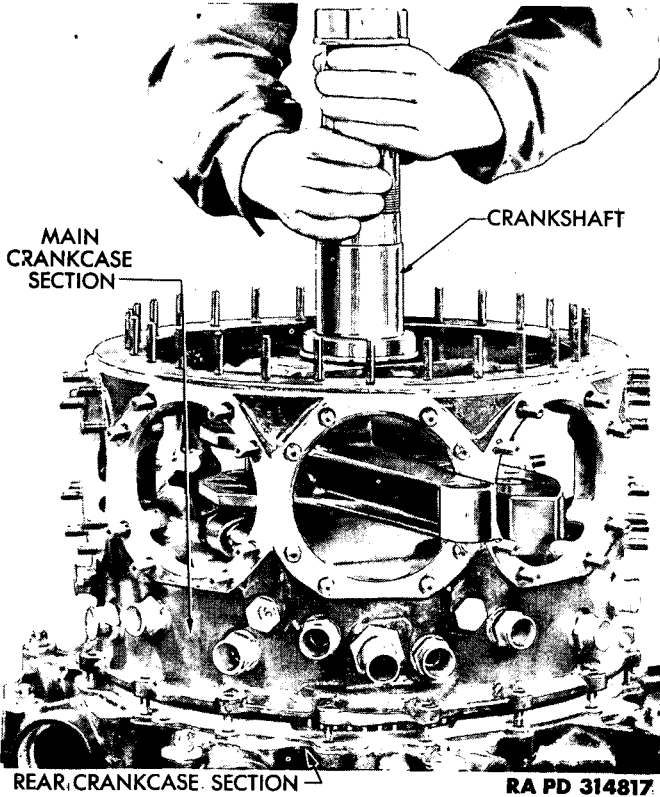

Figure 212 — Turning Crankshaft to Mesh Gear
b. Install Main Crankcase Section. Spread a thin coat of sealing compound on mounting flange of main crankcase section. Remove covering from diffuser section. With the help of another person, lift main crankcase section and position it over diffuser and rear crankcase assembly, so that the sump drain openings in the main, diffuser, and rear crankcase sections line up. Lower main crankcase sections over rear crankcase section studs. Make sure that the oil standpipe enters the standpipe hole in the main section. Be sure that the crankshaft gear meshes with the starter and impeller drive gears before resting the entire weight of the main section on the rear section flange. Rotate crankshaft to mesh the gears (fig. 212).